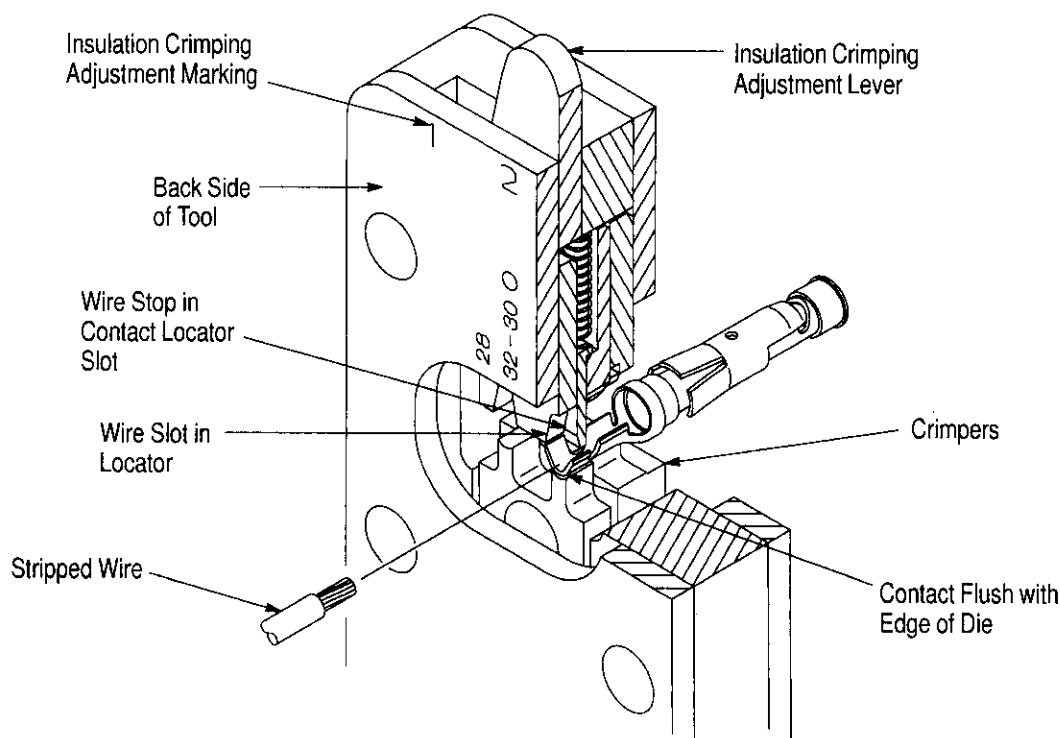

Figure 3
3. Insert the contact insulation barrel from the FRONT side of the tool into the appropriate crimping chamber. Position the contact on the crimpers so that the wire stop enters the contact locator slot. Make sure that the contact is flush with the edge of the die. See Figure 3.
1. Slide the insulation crimping adjustment lever to Position 3 (marked on the BACK side of the tool). Refer to Figure 3.